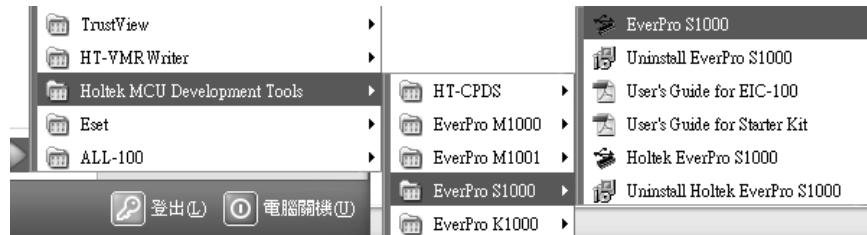

Figure 0
- Step 3: When the setup has finished, click the "start" menu → "Holtek MCU Development Tools" → "EverPro S1000" → "EverPro S1000", open EIC-100 operation Windows. See Figure 0.